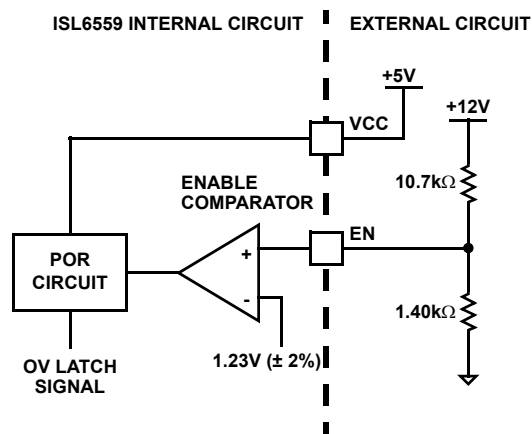

FIGURE 7. POWER SEQUENCING USING THRESHOLD-SENSITIVE ENABLE (EN) FUNCTION
The time required for a converter running with  $f_S = 500\text{kHz}$  to make a 1.2V to 1.4V reference-voltage change is between 30 $\mu$ s and 32 $\mu$ s as calculated using Equation 8. This example is also illustrated in Figure 7.
Second, the ISL6559 features an enable input (EN) for power sequencing between the controller bias voltage and another voltage rail. The enable comparator holds the ISL6559 in shutdown until the voltage at EN rises above 1.23V. The enable comparator has about 90mV of hysteresis to prevent bounce. It is important that the driver ICs reach their POR level before the ISL6559 becomes enabled. The schematic in Figure 7 demonstrates sequencing the ISL6559 with the HIP660X family of Intersil MOSFET drivers which require 12V bias.